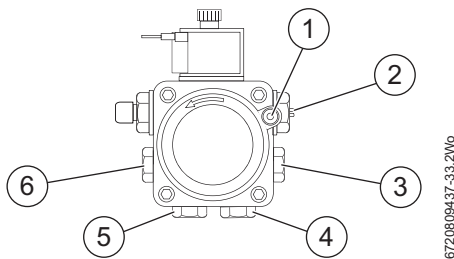
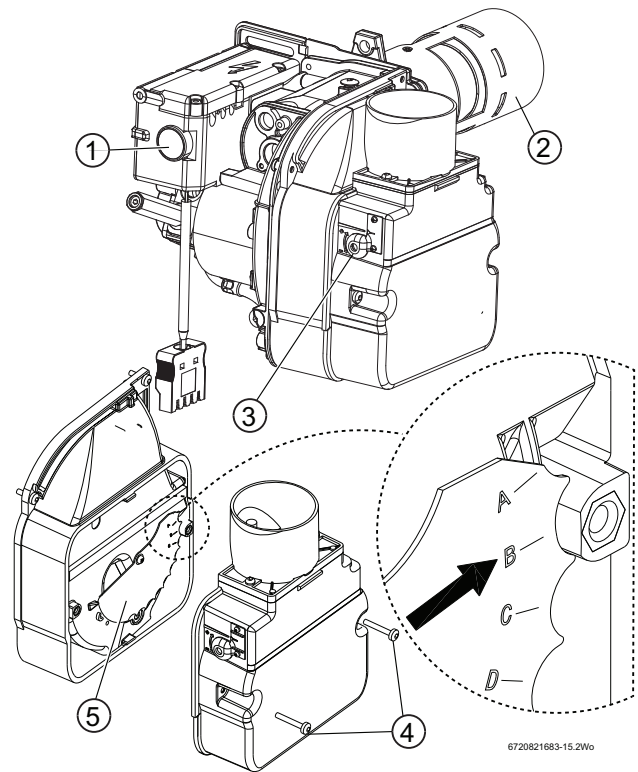

Fig. 64 Oil pump ports/connections
Fig. 65
- ▶ Adjust the air shutter [3] → figure 65 and pump pressure [2] → figure 64 to the values shown in the table 10 on page 44. The burner should ignite following a pre-ignition period of approximately 15 seconds.
Adjust position of air damper discs to suit burner output (see table 10 on page 44), located as shown in figure 65. Access by undoing the two screws [4] to release the air inlet cover.